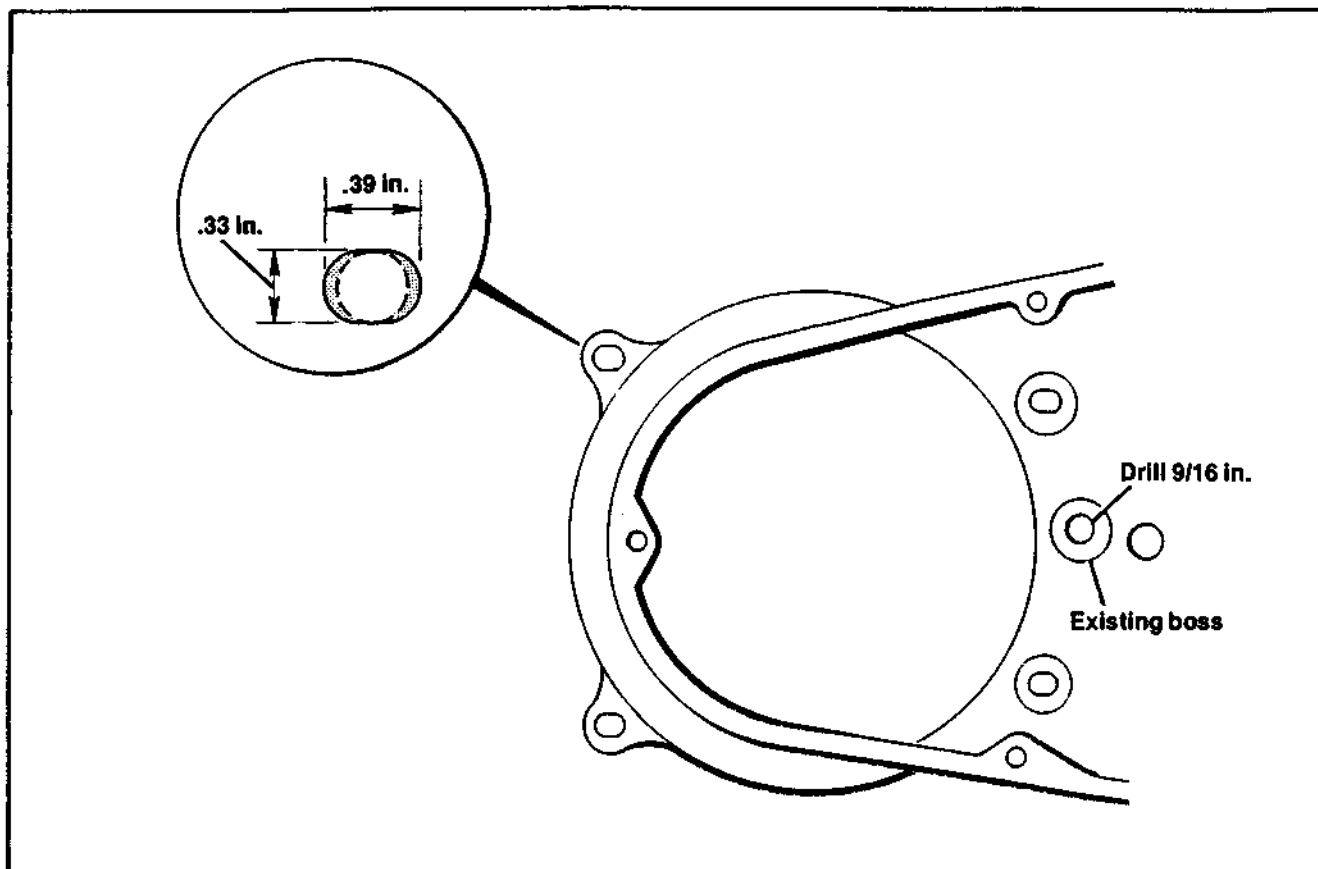

Figure 2. Modifying Inner Primary
1. See Figure 2. With a round file remove approximately 1/16 in. material from each side of original mounting holes, to form slots.
2. See Figure 2. Locate approximate center point of existing boss and center punch. Drill a 1/4 in. diameter pilot hole and enlarge to 9/16 in. diameter.